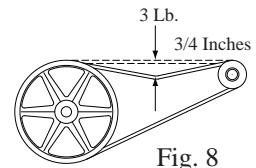

Fig. 8
- **Check belt tension.** A 3 lb. force should deflect the belt 3/4 inches (see Fig. 8). Readjust belt if needed.